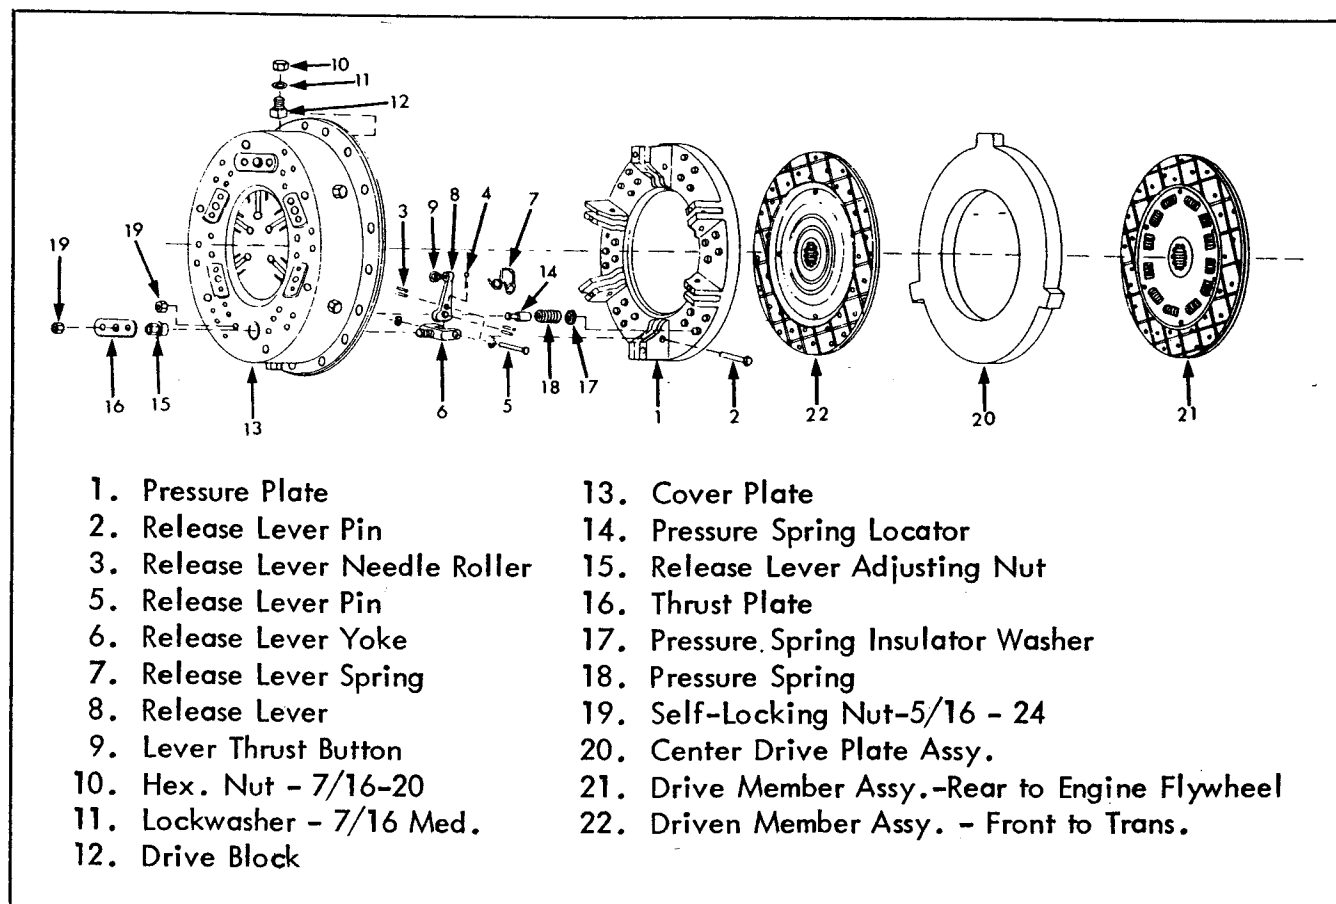

Figure 5-3: Clutch Assembly
1. If the levers have been disassembled, place the dummy pin in the needle roller holes and assemble the rollers (3) around the pin. Refer to Figure 5-3. Care should be taken that the rollers in the holes are straight and that a full complement of fourteen rollers are in each hole.
5. Place the pressure plate (1) face down under the press. If the pressure plate has been remachined, the total amount removed must be added in shims, placed over each spring boss before the